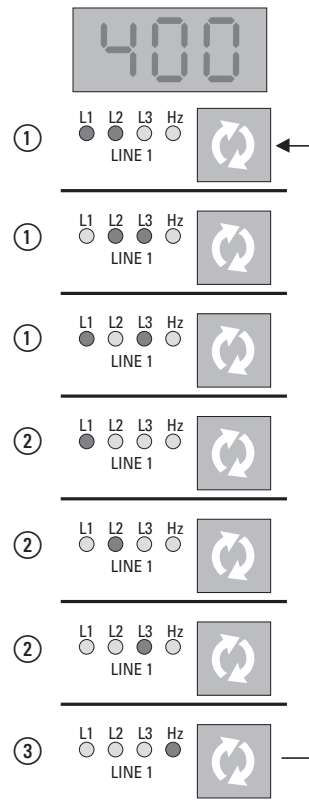

Figure 4: Reading display sequence
- ① Phase-to-phase voltage
- ② Phase-to-earth voltage
- ③ Frequency
For each line the phase-to-phase voltages (L-L) ①, the phase-to-earth voltages (L-N) ② and the frequency ③ can be displayed (→ Figure 4).